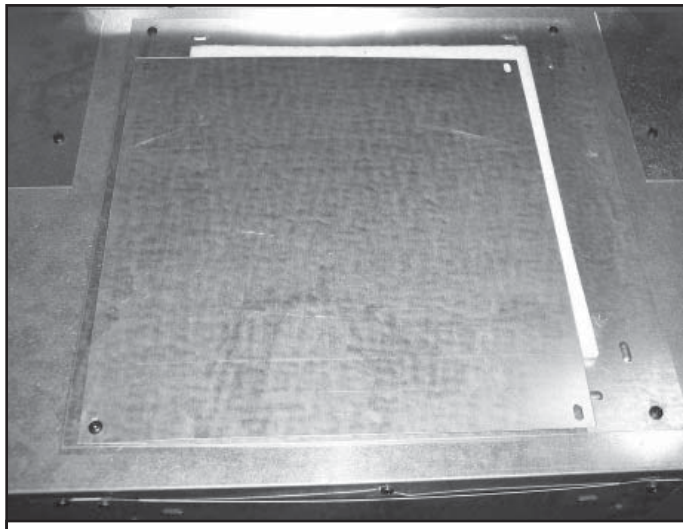

Figure 9.1 Cover Plate, Top of Appliance
- Remove the screw holding heat shield cover plate to top of appliance and set aside. See Figure 9.1